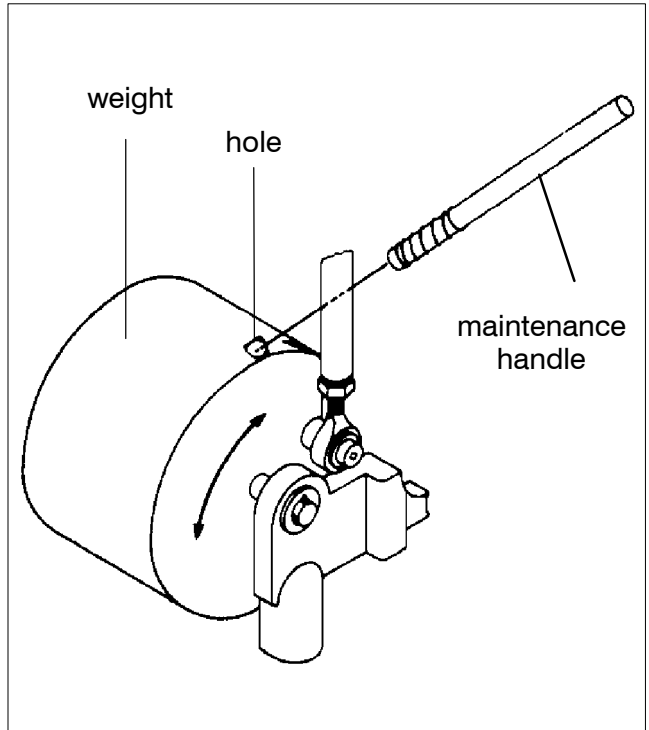

Figure 1-9. Removable maintenance handle on 4000 amp. F-design transfer switch.
*4000 amp. F-design* See Figure 1-9.